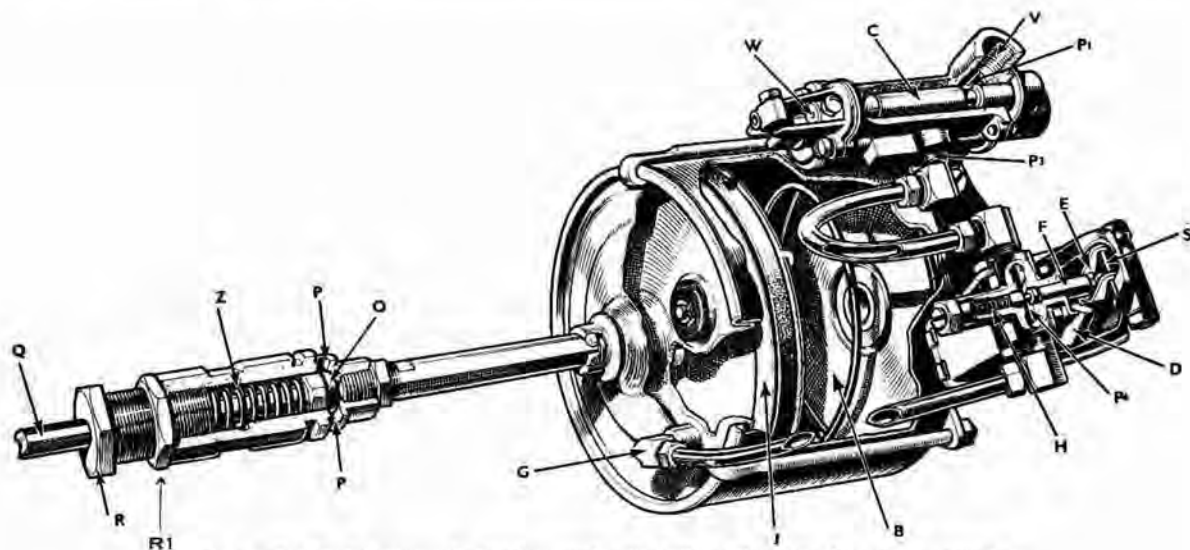

Fig. 1.—The Bendix automatic clutch control unit partly sectioned to show its construction.
| <ol style="list-style-type: none"> 1. The cylinder. 2. The cut-off valve. 3. The control valve. 4. The automatic cushion valve. 5. The pendulum valve. | } | See Figure 1. |
In the side of the control plunger is a small bleeder slot (S2), which, as the plunger moves in, passes a port (P3) in the side of the valve. This port is connected to the opening (G) (see Fig. 1) through the plate at the open end of the cylinder. The functioning of the bleeder slot will be explained later.
When the accelerator is closed, vacuum is created in the cylinder (B), causing the piston (J) to move inwards, and consequently disengaging the clutch, as explained. As the accelerator pedal is depressed, the operation of the control valve cuts off the vacuum and permits air to enter the closed end of the cylinder. The piston rod then moves out and air is expelled from the underside of the piston through the hollow piston rod and out through the holes (P) in the automatic cushion valve (see Fig. 1). This movement is rapid.
Whilst, with this arrangement, all normal clutch operations are satisfactorily accomplished, it is still necessary to make special provision for a slower engagement of the clutch when starting on a hill, or perhaps when attempting a quick getaway on the level. Therefore, a further controlling device called the pendulum valve (see Fig. 1) is introduced in the bleed line from the cylinder to the control valve.
Reference to Fig. 1 will show quite clearly the parts comprising the sychromesh unit. The inner sliding hub (A), which is located to the sliding shaft by splines, carries six balls and springs. When the sliding hub is assembled to the striking dog (B), the balls fit into a groove cut in the centre of the striking dog teeth. Therefore, when the striking dog is moved in either direction, it carries the sliding hub with it.